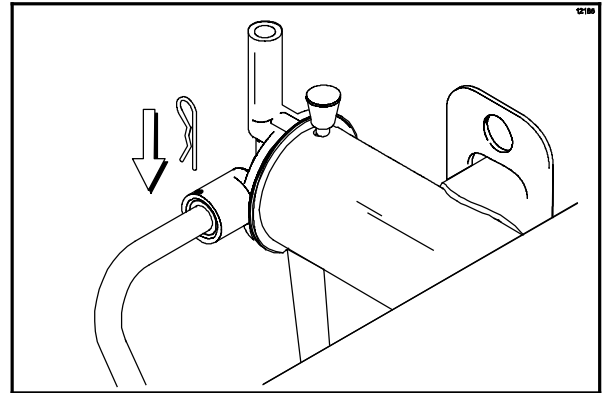

Figure 64
**Install the pump end of the mix feed tube and secure with the cotter pin.** Failure to follow this instruction could result in sanitizer spraying on the operator. (See Figure 64.)